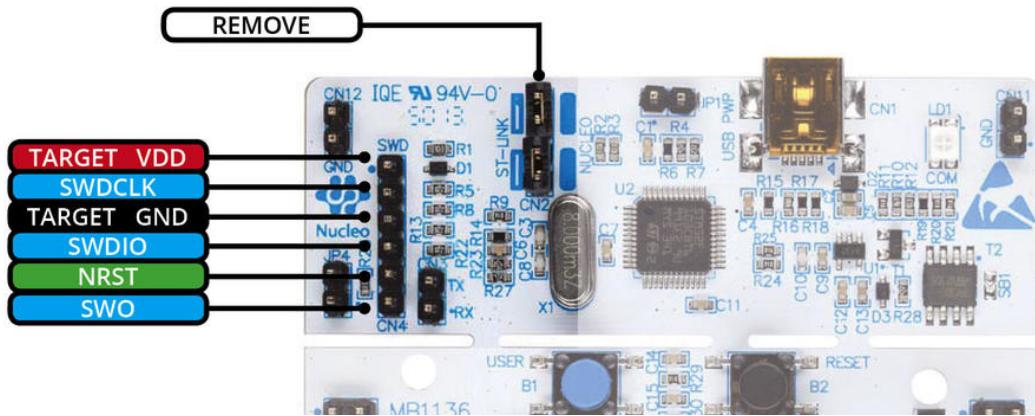

Figure 5: How to use the Nucleo as ST-LINK debugger
**Figure 5** shows how to use a Nucleo as external debugger for a custom board. First, remove the two jumpers from the CN2 pin header. Next, connect the PIN1 of SWD pin header to a VDD (3.3V or lower) source of your custom board, PIN2 to the SWDCLK pin of the STM32 MCU in your board, PIN3 to the GND, PIN4 to SWDIO pin and finally the PIN5 to the NRST pin of the target STM32 MCU (this step is optional, at least in theory). The connection may be easily done simply routing those signals to a convenient pin header, which plays the role of debug port for your custom board. The SWO pin is also available on the SWD pin header, and it corresponds to the PIN6. However, the SWO is connected to the target MCU through a SMD jumper (SB15). So, if you want to use SWV functionality on your board, you will need to desolder that jumper.